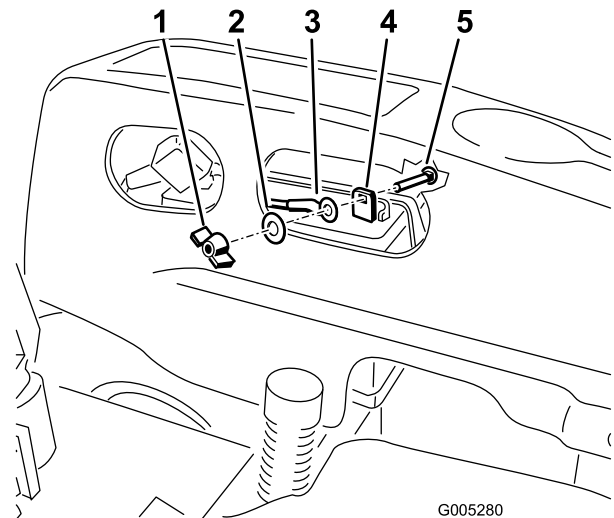

Figure 4
2. Remove the fasteners on the negative battery post and use them to secure the negative battery cable to the negative battery post (Figure 4).